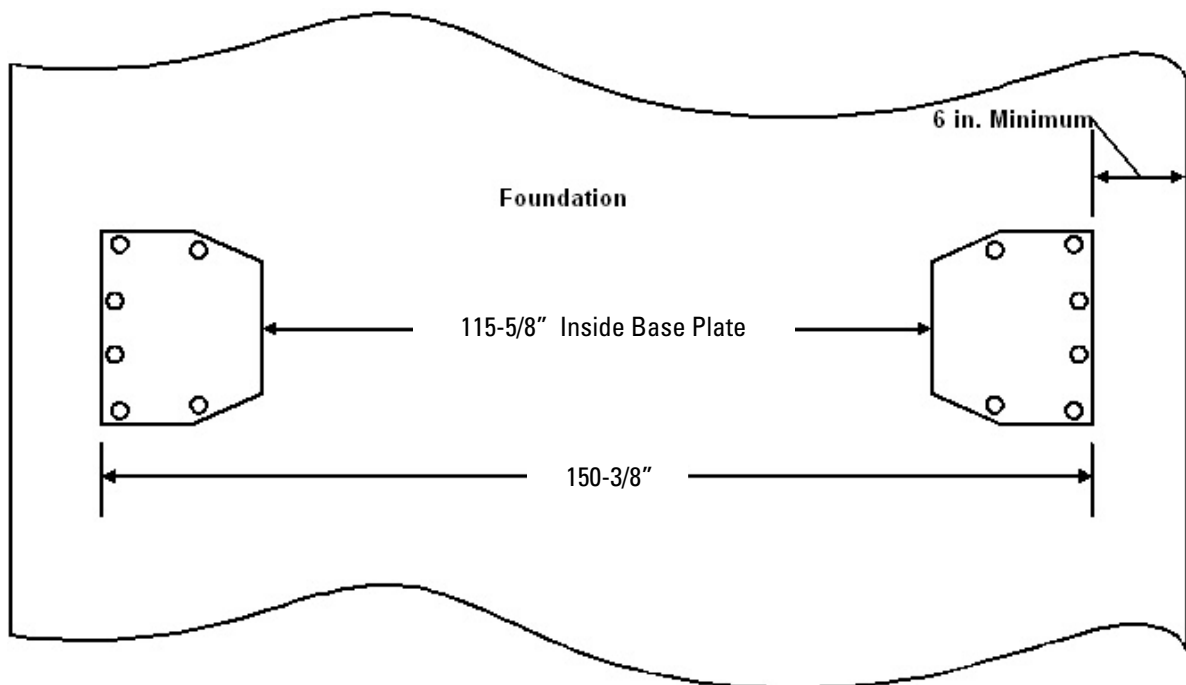

Figure 2-3. Placement of Columns on Foundation
5. Position the columns facing each other 150-3/8 in. outside base plates (see figure 2-3). Allow a minimum of 6 in. from the column base plate to the foundation edge. Square the columns by using a chalkline or measuring diagonally from corner points on base plates (within 1/4 in.). Trace around the column base plates to make sure that positions do not shift in the following steps.